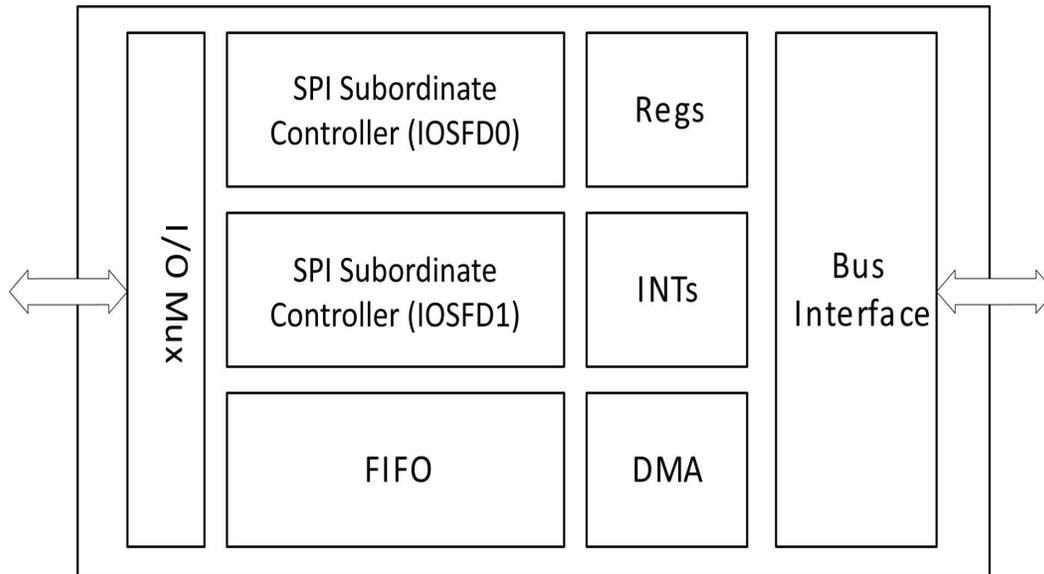

Figure 28. Full Duplex IOS SPI Subordinate Controller Pair (IOSFD0 / IOSFD1)
The Apollo510 SoC includes two instances of the Full Duplex SPI Subordinate and both instance are designed to work in tandem to enable full duplex (FD) operation. Features of the controller pair are shown in Figure 28 and listed below.